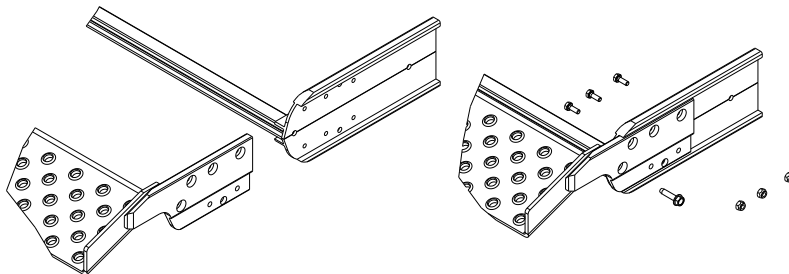

FIG. 3
- Install new tie rod then slide new apron onto end of ramp (Fig. 3). You may need to tap it lightly with the rubber mallet if it is a tight fit.